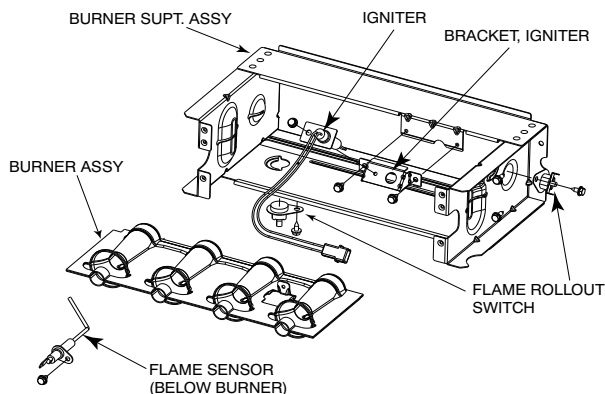
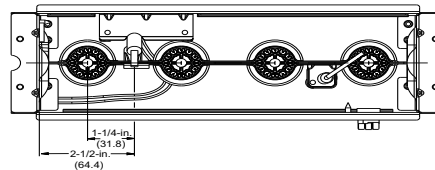
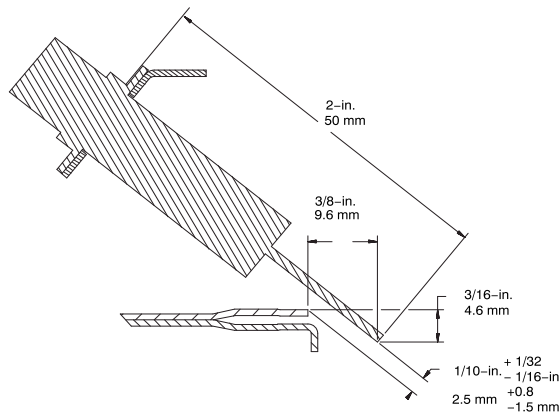

Fig. 67 – Burner Assembly
Fig. 68 – Igniter Position - Top View
Fig. 69 – Igniter Position - Side View
Refer to Fig. 67.
8. Check the igniter alignment. See Fig. 67, Fig. 68, and Fig. 69.
The igniter does **NOT** require annual inspection. Check igniter resistance before removal. See Fig. 67, Fig. 68, and Fig. 69.
- a. Using a 1/4-in. driver, remove the two screws securing the igniter mounting bracket to the burner assembly See Fig. 67.
6. To replace igniter and bracket assembly, reverse items 5a through 5d.
7. Reconnect igniter harness to the igniter, dressing the igniter wires to ensure there is no tension on the igniter itself. See Fig. 67.